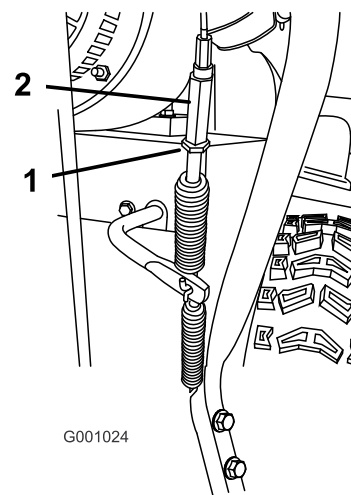

Figure 47
5. Loosen the jam nut (Figure 47).
- Loosen or tighten the turnbuckle that adjusts the tension on the cable (Figure 47).